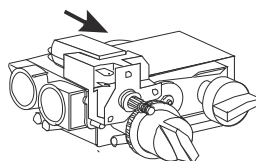
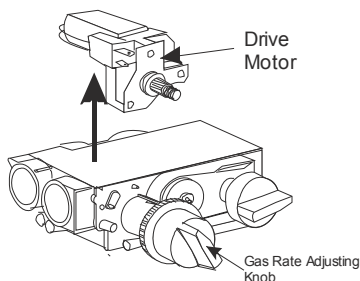

Figure 74
Figure 75
5. Turn the gas rate adjusting knob fully anticlockwise and gently manipulate the motor free from the valve (see note). (See **Figure 74** & **Figure 75**).